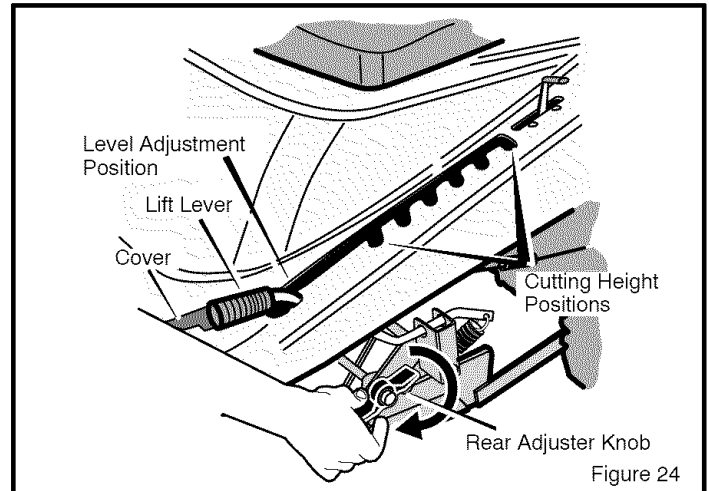
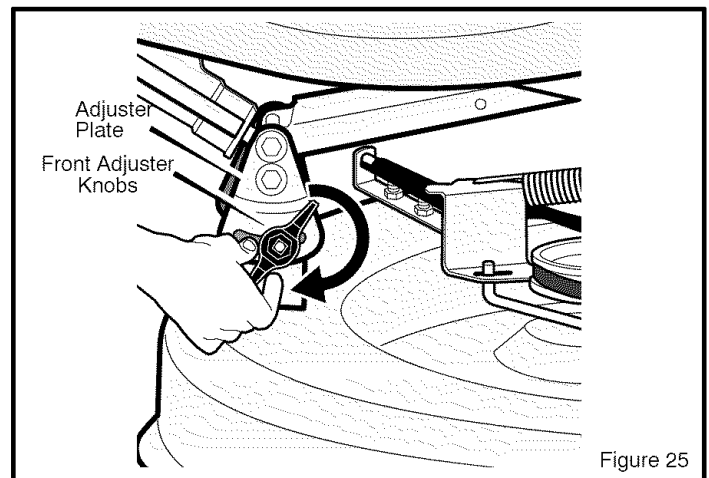

Figure 24
Figure 25
4. Open the **cover** (see Figure 24).
5. Move the **lift lever** to the LEVEL ADJUSTMENT position (see Figure 24).
6. Loosen the front and rear **adjuster knobs** (see Figure 24 and Figure 25). Make sure both sides of the mower housing are setting on a flat surface.
7. Make sure that the adjuster plate is loose and can easily move up or down (see Figure 25).